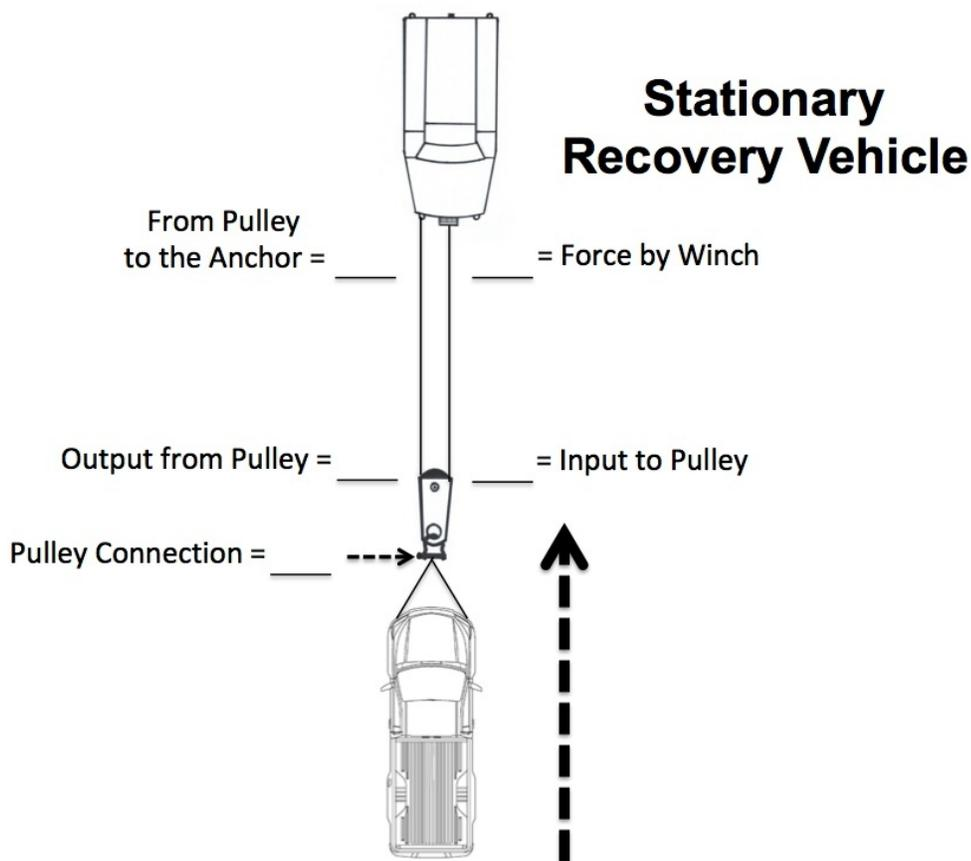

FIGURE 2
Step 3: Also, place a blank line everywhere a line returns to an anchor (in this example from the pulley to the recovery vehicle). **See Figure 2.**